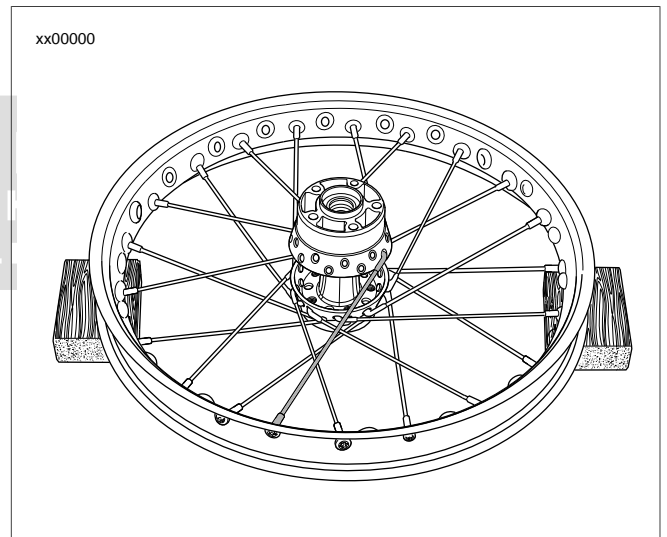

Figure 2-49. Install Lower Spokes into Hub
7. See Figure 2-49. Turn rim over, primary brake disc side up. Place any **lower** row spoke into hub. Angle spoke clockwise and place into rim hole angled to accept it.